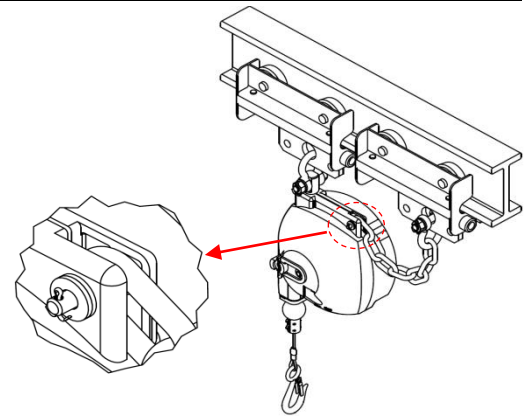

Fig. 02
- Unit is shipped with one end of safety chain already fitted on the unit at the factory while the loose end of the safety chain is supplied with a shackle, bolt & nut, and a new cotter pin [See - Fig. 02].